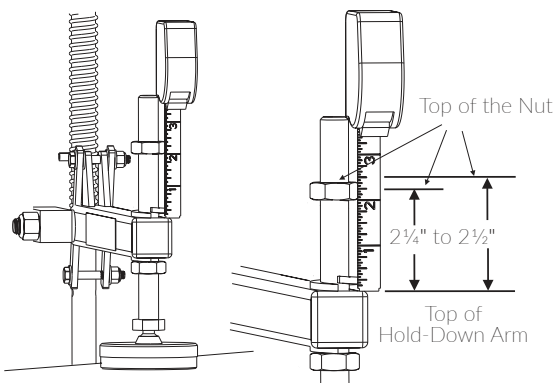

Figure 6-4
- Adjust the top nut, so the top of the nut measures 2¼" to 2½" above the top of the hold-down arm. Once the measurement has been set, DO NOT adjust the top nut or the stationary nut. See Figure 6-4.